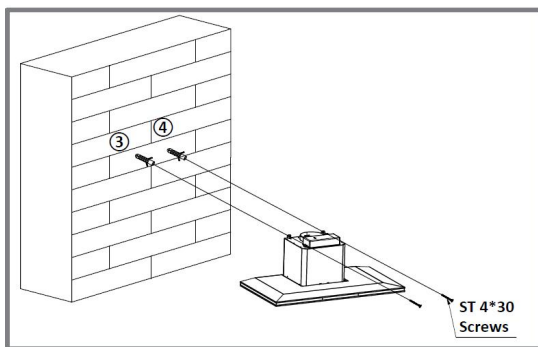
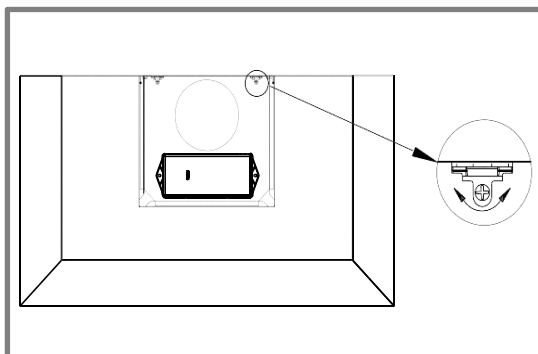
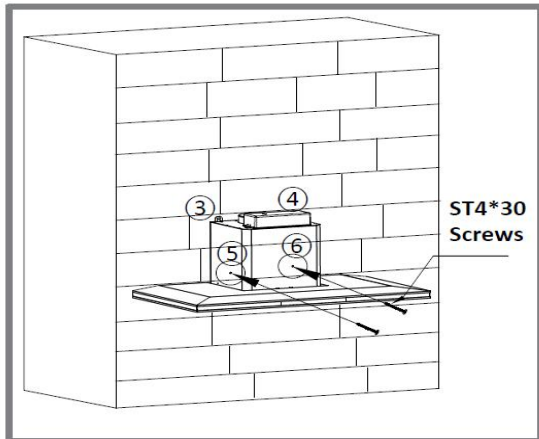

Fig.7
Fig.7.1
Fig.7.2
#### Step 2 (Fig.7, Fig.7.1, Fig.7.2)
- Mount the appliance onto the wall and do ensure that it is properly engaged with the mounting screws 3 & 4 (Fig.7)
- If there is a need to realign the appliance, adjust the screws on the top of the motor housing (Fig.7.1)
- Tighten the screws 3, 4, 5, 6 firmly after realignment. (Fig. 7.2)